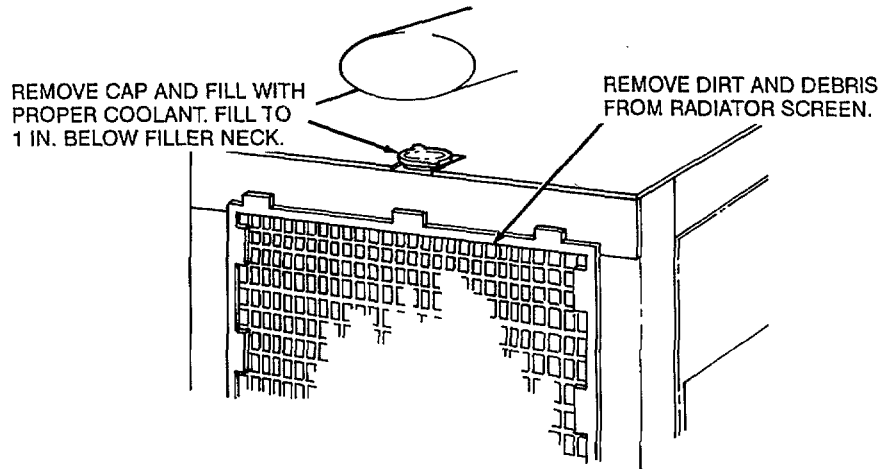

Figure 44. Radiator service
b. Check coolant level in radiator. Coolant should be 1 in. from bottom of filler neck (fig. 44).